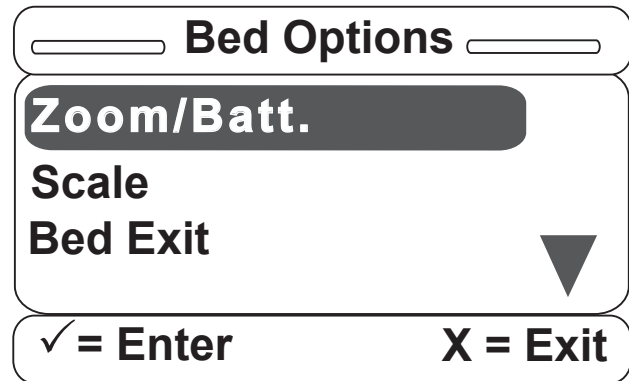

Figure S-5
5. Once the Bed Option item is selected, the menu in Figure S-5 will be displayed on the screen. **Each option must be set to OFF, ON or a variety of the option** (i.e., Zoom®/Batt. or Bed Exit). **Configure each option in the order presented on the screen** (i.e., set the Zoom®/Batt option before the Scale option, which should be set before the Bed Exit option, which should be set before the Awareness option).